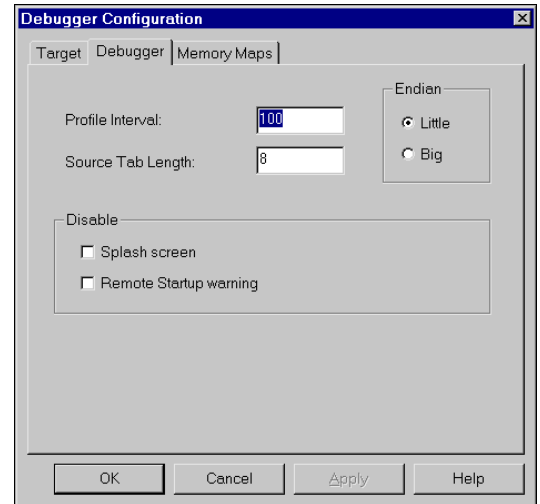

Figure 3-16 Configuration of debugger
1. Click the **Debugger** tab of the Debugger Configuration dialog (Figure 3-16)